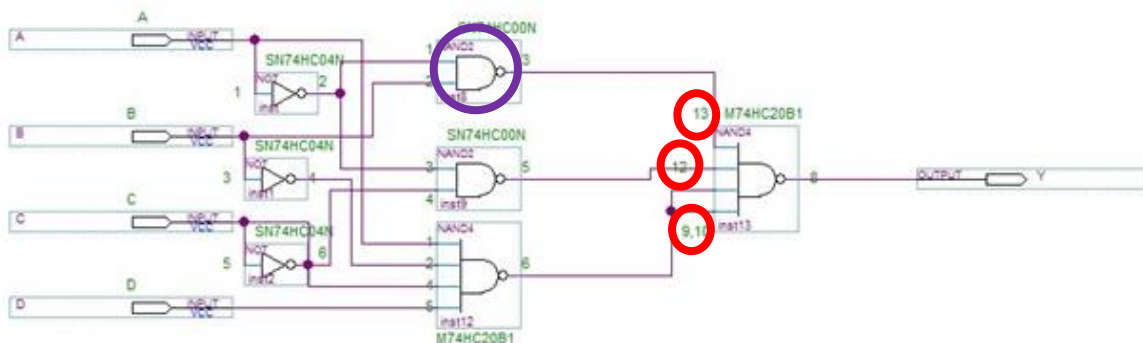

Figure 10. Pins 9, 10, 12, and 13 of the last gate are highlighted.
If there are few incorrect outputs of Y, after trying every input combination, then check the pins of the inputs of the gates closest to the circuit output. In *Figure 10*, the inputs of the last chip are probed. In this example, the value of pin 13 is probed, whilst every input combination that affects it (A and B in this case) is tested. If pin 13 is correct, repeat for pins 12 and 9 and 10.
**D incorrect*: Red circle 13 on Figure 10.*